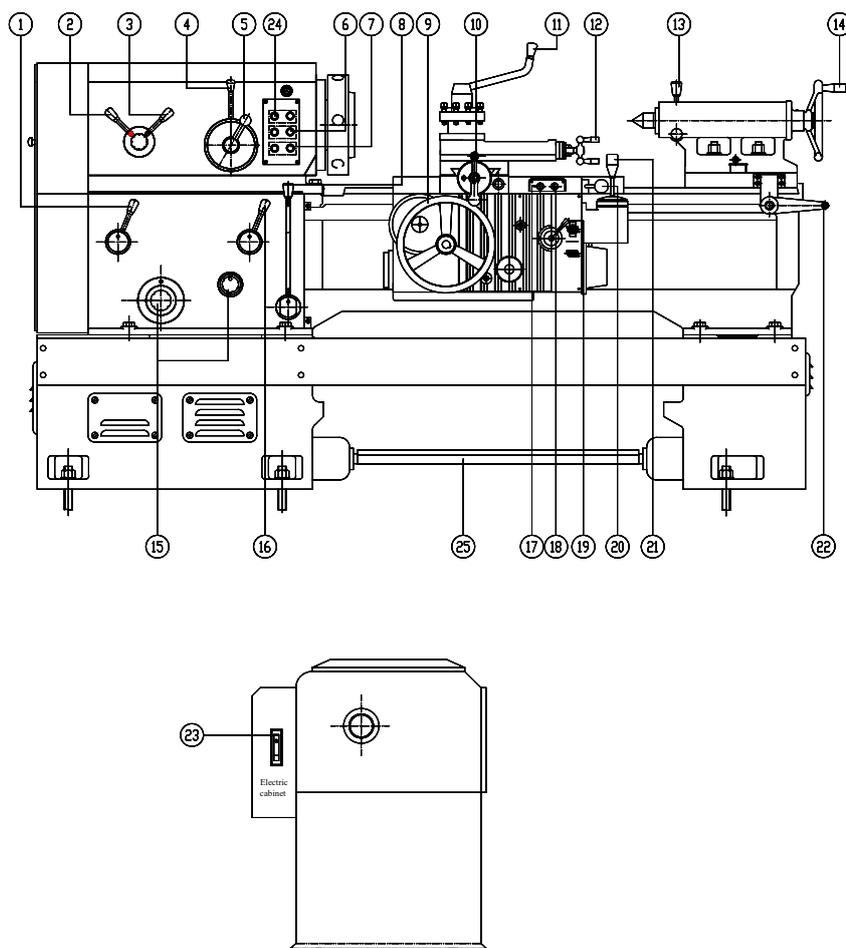
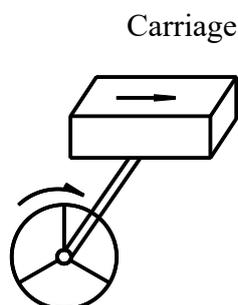

Fig. 24 Control levers of the machine with foot-pedal braking
Fig. 25 Handwheel and moving directions of the carriage
For the control system of the machine with foot-pedal braking, refer to Fig. 24 and Table 7.
The relationship between the operating directions of the handwheel (9) for moving the carriage in longitudinal direction, the handwheel (10) for moving the cross slide in cross direction and the handle (12) for moving the compound rest and corresponding movement of the carriage, the cross slide and the compound rest of the machine is in accordance with the standard GB/T17161-1997 (eqv.ISO447;1984) 《Operating Direction of Control Devices of the Machine》. When the handwheel is clockwise rotated (viewing from operator's facing to the shaft end used for installation of the handwheel), the controlled carriage makes straight movement toward right (see Fig. 24), the cross slide and the compound rest make straight movement far from operator (see Fig. 25)